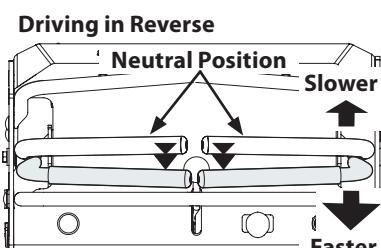

Figure 12
1. Slowly and evenly move both drive control levers rearward. The mower will start to move in the reverse direction. See Figure 12.